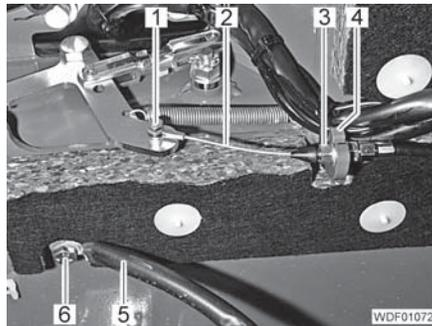

Fig. 354 Front attachment of the Bowden cable
- Insert the Bowden cable (Fig. 354,2) into the holder (Fig. 354,4).
- Tighten the nut (Fig. 354,3).
- Screw in the screw (Fig. 354,1) with the eye and washer and tighten so that the eye can still be rotated.
- Attach the grounding strip (Fig. 354,5).
- Screw in and tighten the screw (Fig. 354,6) with the serrated washer.